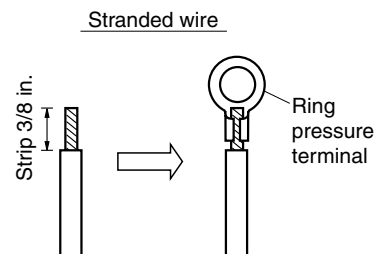

Fig. 5-4
- (1) Cut the wire end with cutting pliers, then strip the insulation to expose the stranded wiring approx. 3/8 in. and tightly twist the wire ends. (Fig. 5-4)
- (2) Using a Phillips head screwdriver, remove the terminal screw(s) on the terminal plate.
- (3) Using a ring connector fastener or pliers, securely clamp each stripped wire end with a ring pressure terminal.